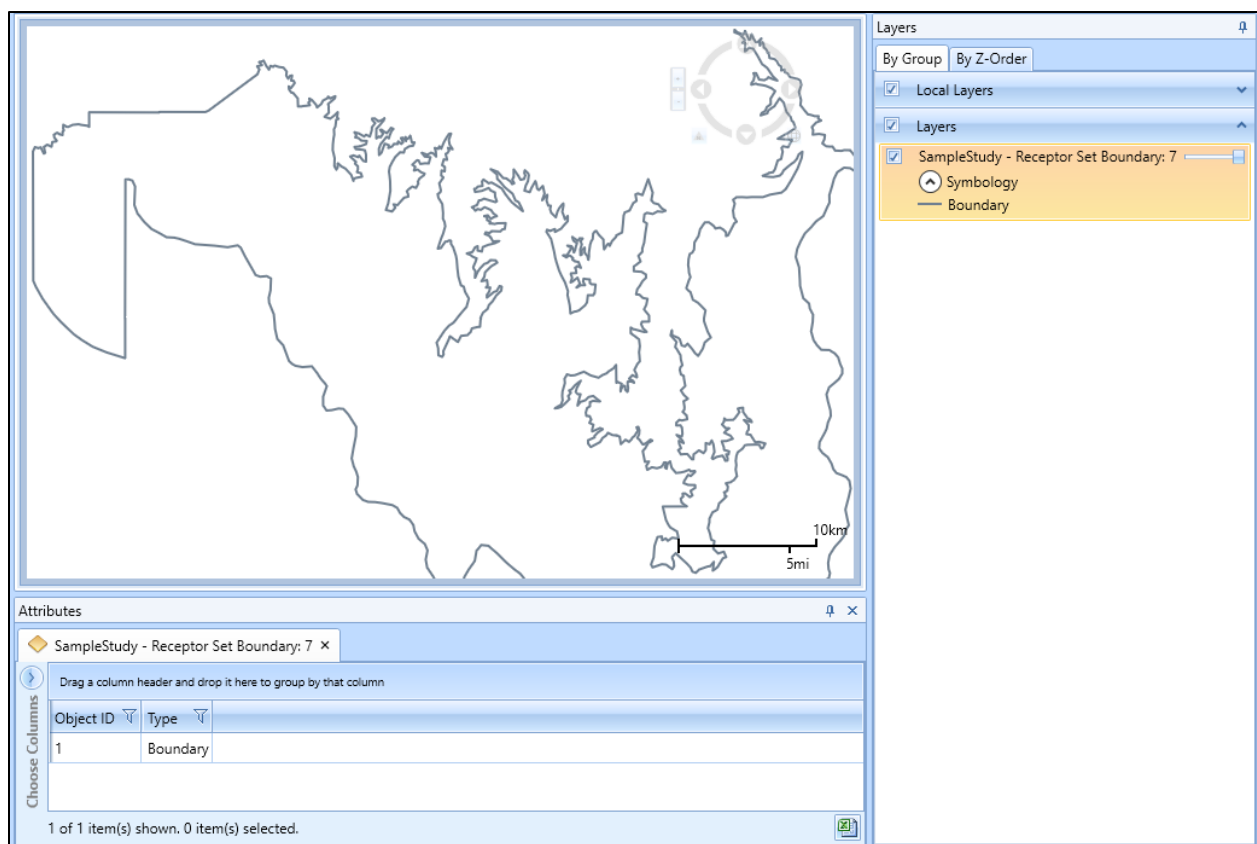

Figure 5-39 Sample Receptor Set Boundary Layer with Attributes
3. The Receptor Set Boundary Layer is displayed on the map (Figure 5-39) and in the *Layers* manager.
The following attributes are available for the Receptor Set Boundary Layers: Object ID, and Type (Figure 5-39). See Appendix B.3 for descriptions of the attributes.